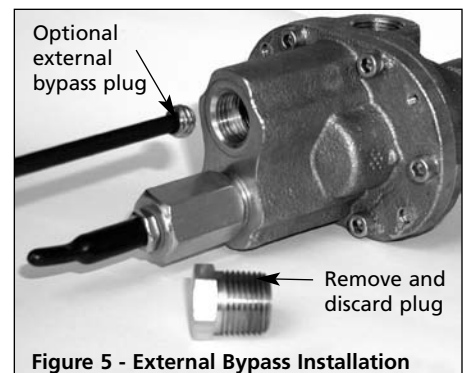

Figure 5 - External Bypass Installation
9. To convert the relief valve to external relief, remove the 1/4 NPT pipe plug from the pump cover (Figure 5 & 7, Ref. No. 13) and discard. This plug is next to the relief valve. In the bottom of the 1/4 NPT hole, there is a second drilled and tapped
hole of 1/4 size. An optional external bypass plug (Figure 5 & 7, Ref. No. 14 included) should be inserted in this hole and bottomed out. The open 1/4 NPT port must now be piped back to the tank or well downstream of the pump suction.